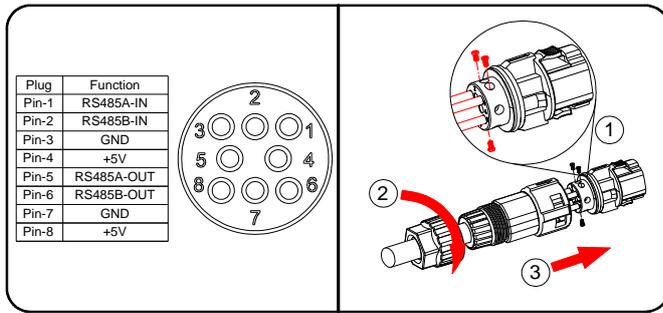

FIG 4-10 Assembling the Connector
Step2: Insert the conductors into the corresponding pins of the plug, and then fix the conductors by screws firmly, as shown in FIG 4-10. Tool: Phillips screwdriver #1. Torque: 0.6~0.8N.m.
Step 3: Tighten the pressure nut, and then push the threaded sleeve into the plug, as per FIG.4-10.